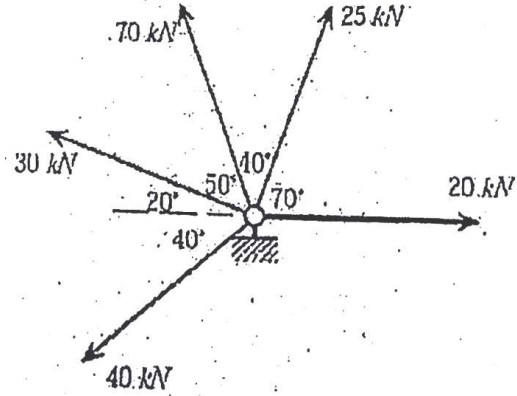

Figure 1.2
8. Determine the magnitude and direction of the resultant of the forces acting on the ring as shown in Figure 1.2